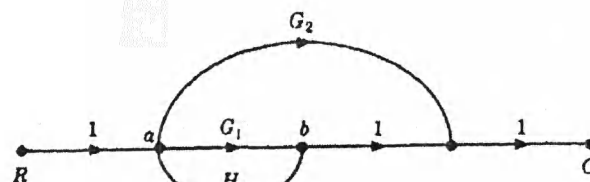

Fig. 4
14. The transfer function $C(s)/R(s)$ for the signal flow graph shown in Fig. 4 is